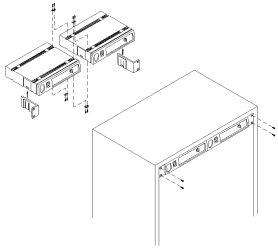

Figure 7
4. After completion, it can be rackmounted into an EIA standard rack case. Shown in Figure 7.